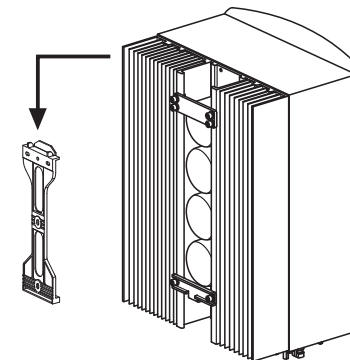

Figure 4.5 Wall Mount Bracket
2. Lift up the inverter (be careful to avoid injury), and align the back bracket on the inverter with the convex section of the mounting bracket. Hang the inverter on the mounting bracket and make sure the inverter is secure (see Figure 4.5).